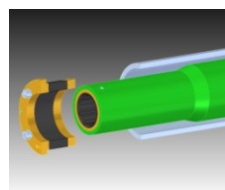

Fig. 5 (aft/prop. end)
- Put the aft ClampSeal into position. The ClampSeal is now used to line the GRP stern tube with the outer tube (Fig. 5 + 6).